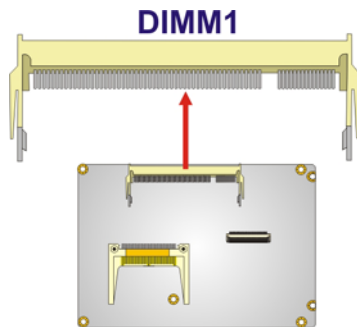

Figure 3-10: DVI Connector Location
- CN Location:** See **Figure 3-10**